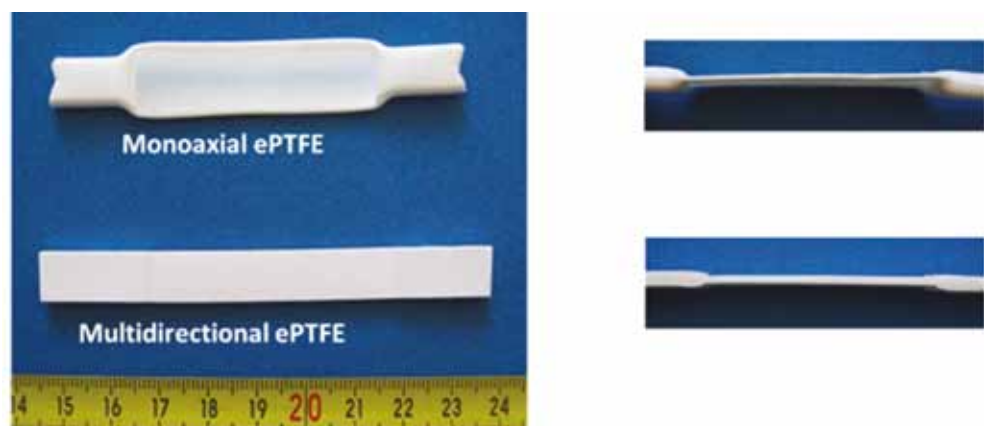

Figure 1: 10x3 ePTFE tape compressed with 30N/mm².
As mono-axial ePTFE tape is expanded in only one direction, it naturally spreads laterally (increases in width) when compressed, typically expanding to 200-300% of its original width. This characteristic should be factored into sizing and installation to ensure a proper fit, as shown in Figure 1. Mono-axial ePTFE gasket tape remains an ideal solution for applications where ease of installation and adaptability are crucial.
Multi-directional ePTFE tape offers excellent strength and stability because it is expanded in two directions. This bi-axial orientation provides more consistent compression without a significant change in width, making it ideal for applications where dimensional stability is crucial. For example, Teadit's 25BI tape has a unique manufacturing process that results in high tensile strength in both the longitudinal and cross directions. As a result, the tape's width does not change significantly under compression, see Figure 1. This is in stark contrast to many expanded PTFE tapes. Glass-lined piping and equipment often have warped surfaces with significant variations that need to be compensated for by the gasket. In these cases, multi-directional ePTFE tape is an excellent solution. Its ability to be layered (shimming) in specific areas of the flange allows it to accommodate variable warping and uneven surfaces, ensuring a reliable seal. Additionally, its resistance to creep at high temperatures makes it ideal for protecting the glass lining and maintaining an effective seal.
- Complete the gasket by overlapping both ends in front of a bolt either crossed (approximately 20 mm, 1 inch – Image 1, Fig. 1) or straight with a cut in skived manner (Image 1, Fig. 1.1).
- Cut the beginning of the tape with a sharp knife in a skived manner (Image 2, Fig. 1).